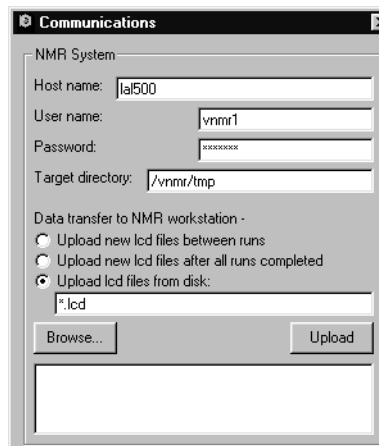

Figure 119. Communication Window - Uploading .lcd File
- c. Click on “Browse” to find the .lcd file. Click on “Upload”. The display window will monitor the progress of the file transfer, see Figure 119.
- c. Click on **Browse** to find the `.lcd` file. Click on **Upload**. The progress of the file transfer is displayed in the communications window, see **Figure 119**.